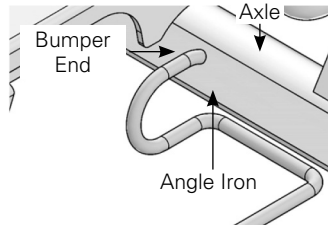

Figure 2
2. Place the loops of the bumper so that the Bumper End is positioned next to the Angle Iron and Axle of the head-end caster base (*Figure 2*)